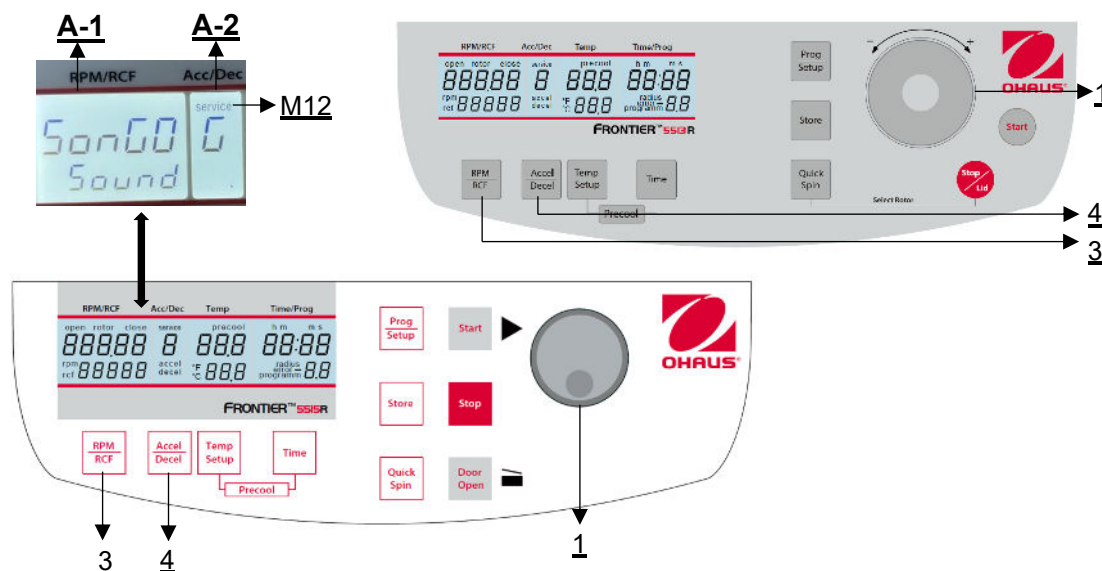

Figure 29
Proceed as described under point 4.1.1 to enter this program mode and then press the key **"Accel/Decel"** (4). In the display **"Acc/Dec"** (A-2) the word **"Service"** (M12) flashes. Now select the letter **"G"** with the adjusting knob / touch wheel (1). As a result, the words **"SonGo/Sound"** appear in the display **"RPM | RCF"** (A-1). After pressing the key **"RPM | RCF"** (3), you can select a song with the adjusting knob / touch wheel (1) (see Figure 29).